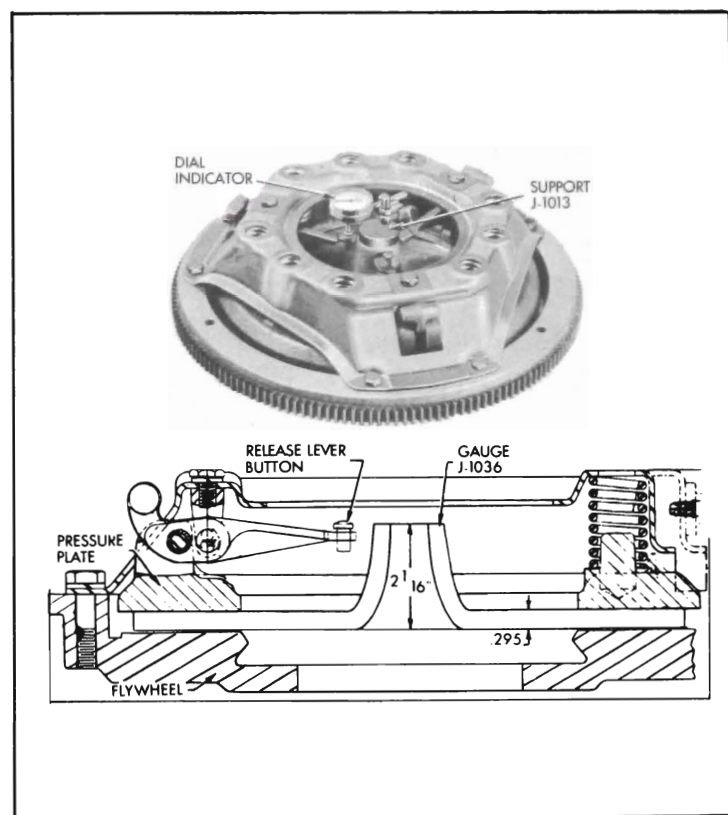

Figure 4-6—Checking Release Lever Height
1. Mount dial indicator on Support J-1013, set support on flat surface, press indicator stem down against surface until indicator hand has made one revolution, then tighten indicator to support and set indicator to zero. See figure 4-6.